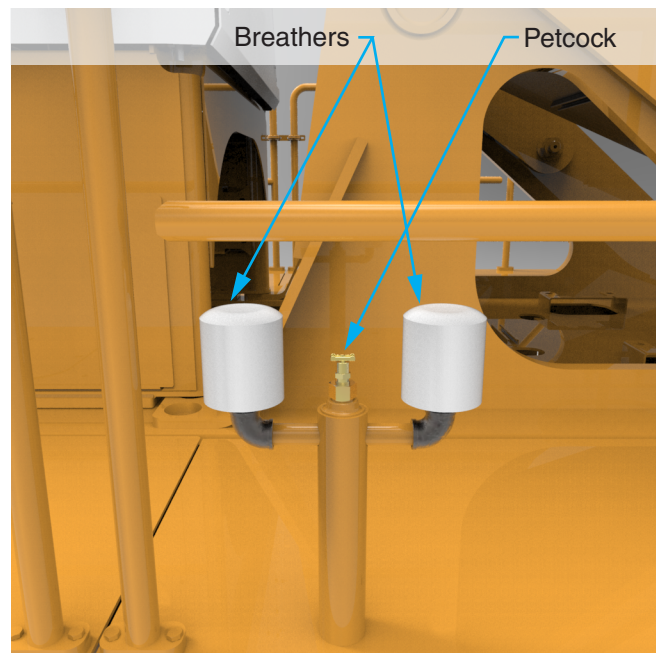

Figure 5-5-14 Hydraulic Tank Breathers
3. Relieve pressure in the tank by opening the petcock between the breathers. See Figure 5-5-14.